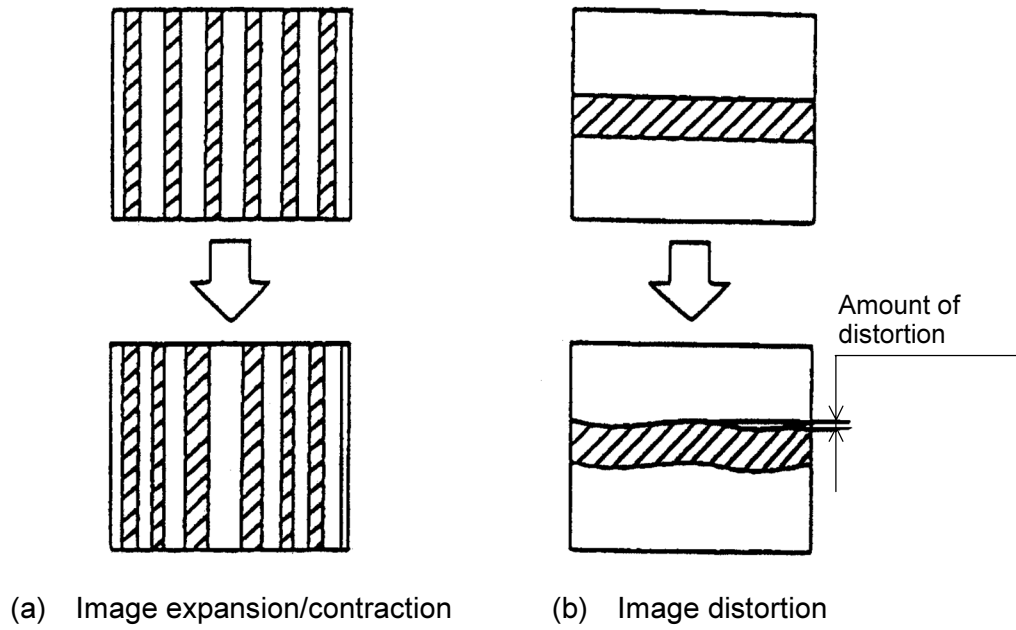

Fig. 1.2-1 Effect of Stray Magnetic Field Component Synchronous with Power Frequency (AC magnetic field)
- The stray magnetic field component synchronous with power frequency appears as image distortion or deformation on the CRT display (Fig. 1.2-1). This is because the electron beam is scanned in synchronization with the power frequency. The maximum allowable value of stray magnetic field component synchronous with power frequency is specified so that no adverse effect will be given to CD measurement reproducibility.